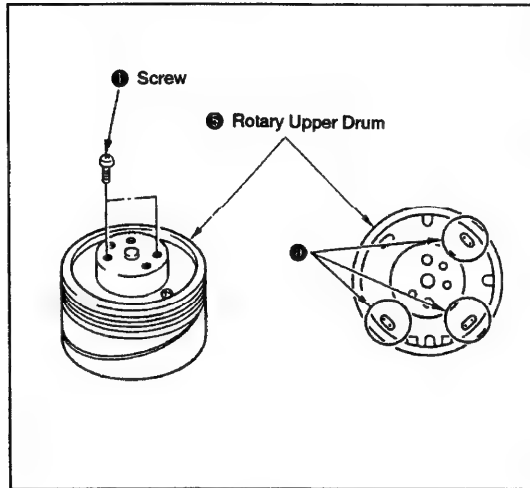
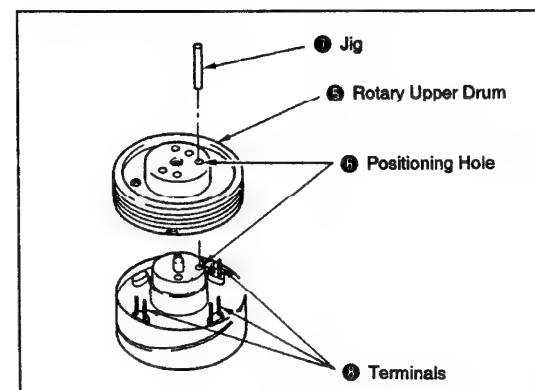

Fig. 3-22.
Fig. 3-24.
- 1) Detach the six solderings ①, then use a pair of tweezers or the like to confirm that the terminals passing through the board holes from below can move freely.
- 2) Remove the two screws ② (See Fig. 3-22).
- 1) Wipe clean the flange surface and the rotary upper drum ⑤ surface that makes contact with it, and confirm that they are free from dirt and scratches.
- 2) Insert the jig ④ (Ref. No. J-7) into the drum positioning hole, then set the rotary upper drum ⑤ by passing the jig through its positioning hole ⑥.
- Note:** Confirm that the terminals ⑦ protrude slightly from the rotary upper drum board holes (See Fig. 3-24).
- 3) Remove the jig ④ and push down the rotary upper drum ⑤ gently by hand. If it does not go all the way down, secure it temporarily by tightening the two hexagon socket screws ① alternately.
- 4) Insert the jig ④ into the positioning hole ⑥ again and confirm that it goes in smoothly. If it does not, loosen the two screws ①, repeat step 3 of the Removal paragraph and restart the setting procedure.
- 5) Tighten the screws ①.
- 6) Solder the terminals ⑦ (⑧ in Fig. 3-22).